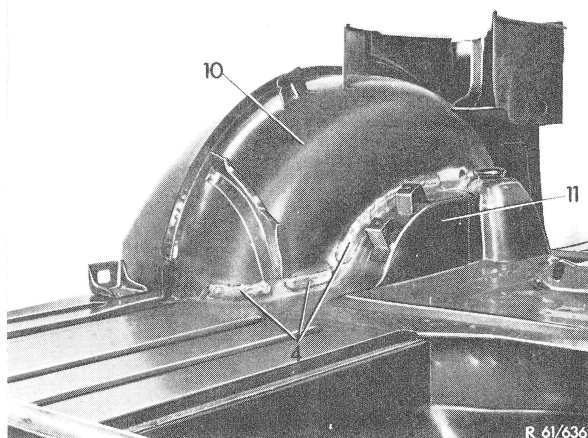

Fig. 6
21 Connect wheel housing (10) with side member (11) by bead welds (4) (Fig. 6).